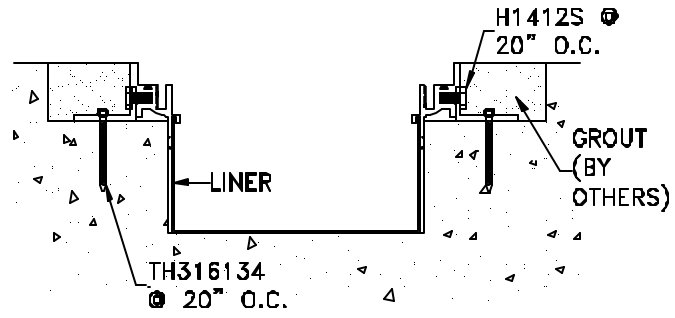

Figure 13
- STEP 23.** Remove the temporary wooden cover from the frame (see Figure 13).